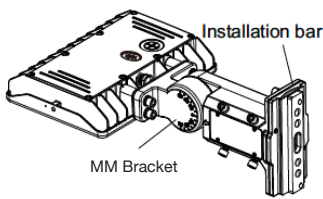

Fig. 29
1. MM bracket works for round or square poles. Remove round adapter plate for use with square pole (Fig. 29).